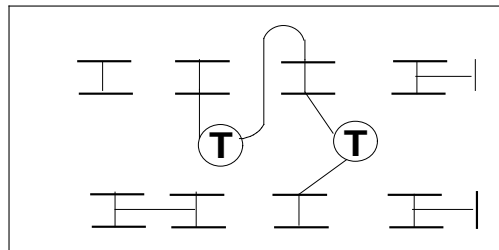

Fig. 5 Wired for 240VAC Conversion
Step 1: Wire Power Transformer Terminal block as illustrated in Figure 5.